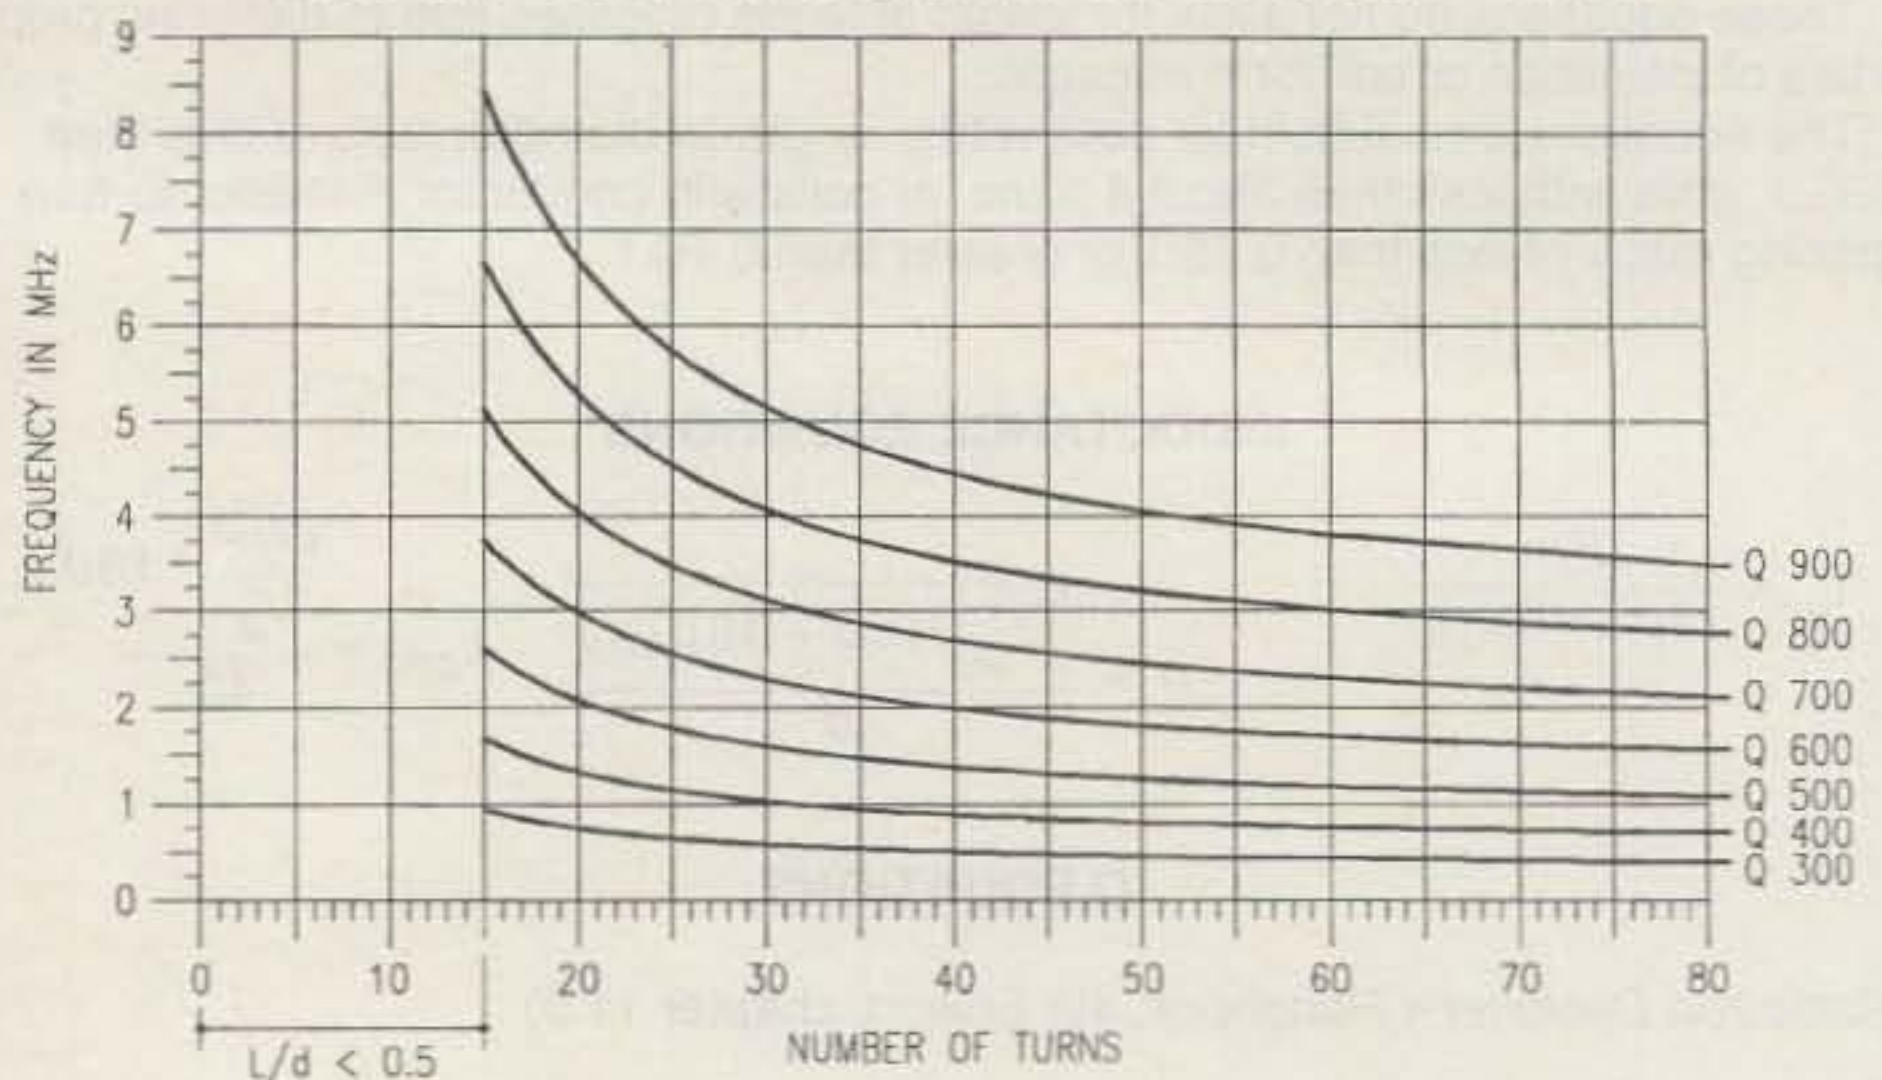

Fig. 6—Length vs. frequency, with a constant Q.
5. Q increases with coil length, rapidly when the L/d ratio is small, and very slowly when the L/d ratio is 1:1 or more (see fig. 6).
6. Q increases with frequency (fig. 6).